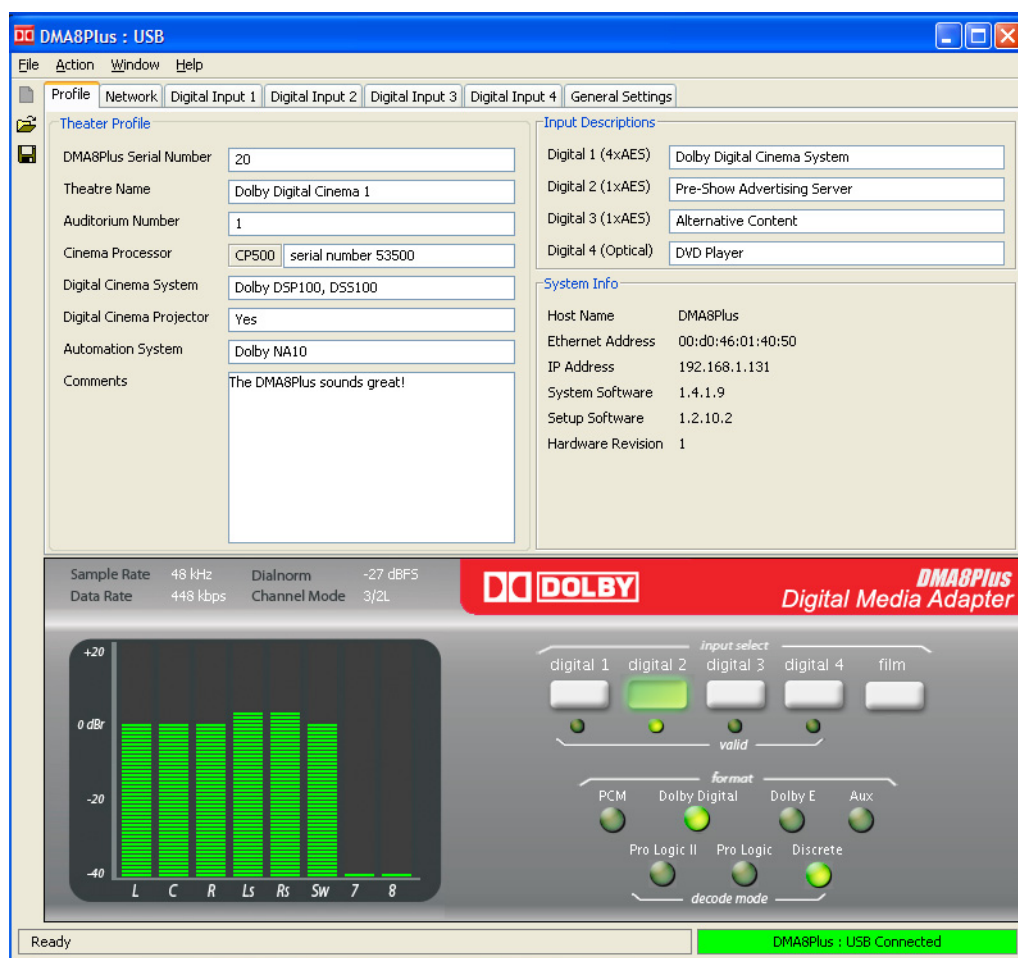

Figure 3-2 Profile Settings Window
3. Launch the setup software by selecting **Start>Programs>Dolby>DMA8Plus Setup**, then connect your PC to the DMA8Plus front-panel USB port to establish a connection. The DMA8Plus **Profile** settings window appears, as shown in Figure 3-2.
When you launch and connect the DMA8Plus setup software, the **Profile** settings window appears, as shown in Figure 3-2. The virtual status monitor appears in the lower section of the window.